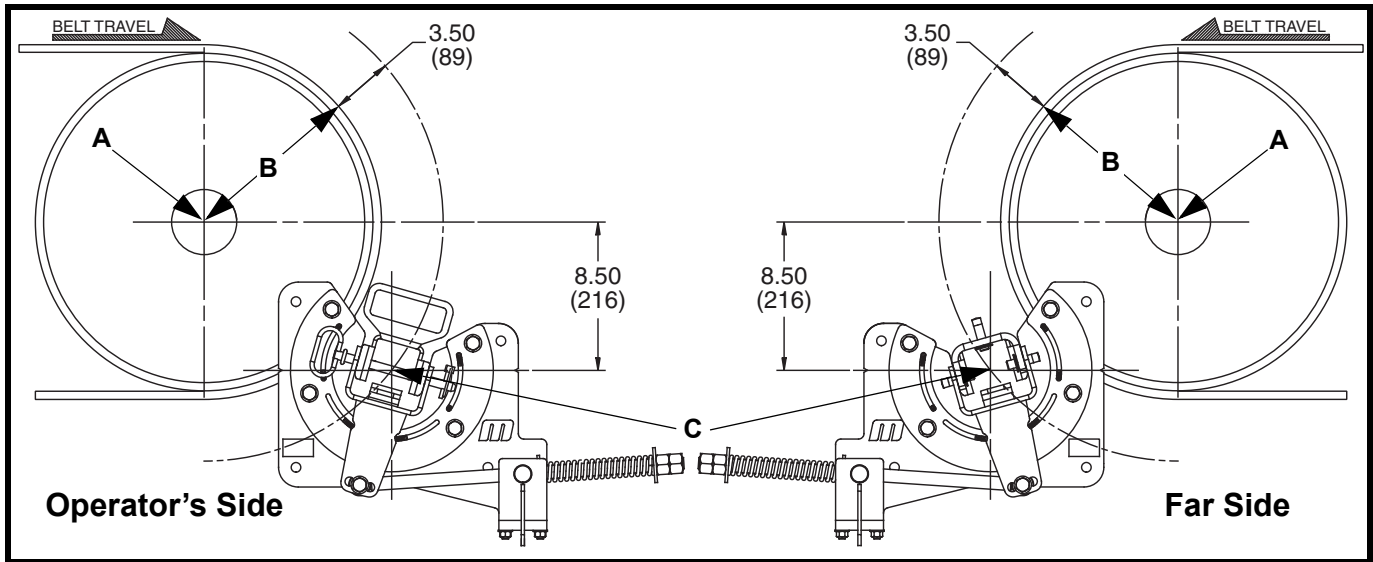

Figure 2. Belt Cleaner Location
1. On operator side of chute, find pulley center point (A).
2. Measure radius of head pulley including lagging and belt thickness (B). To this dimension, add 3.50 in. (89 mm).
3. Starting from center point (A), measure the total distance calculated in step 2 ($B + 3.50$) and draw an arc on chute wall.
4. Measure down from pulley's horizontal centerline the distance shown in Figure 2 and draw a horizontal line parallel to it. Locate center point of belt cleaner mainframe (C) where this line intersects the arc on the chute wall.